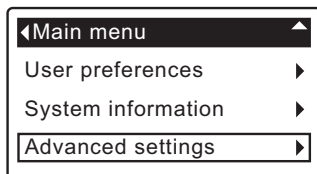

FIG. 73
1. From any of the rolling status screens, press the SELECT (O) button to display the **Main menu**.
2. Press the DOWN (▼) button to scroll through the menu options until **Advanced settings** is highlighted (See Figure 73).